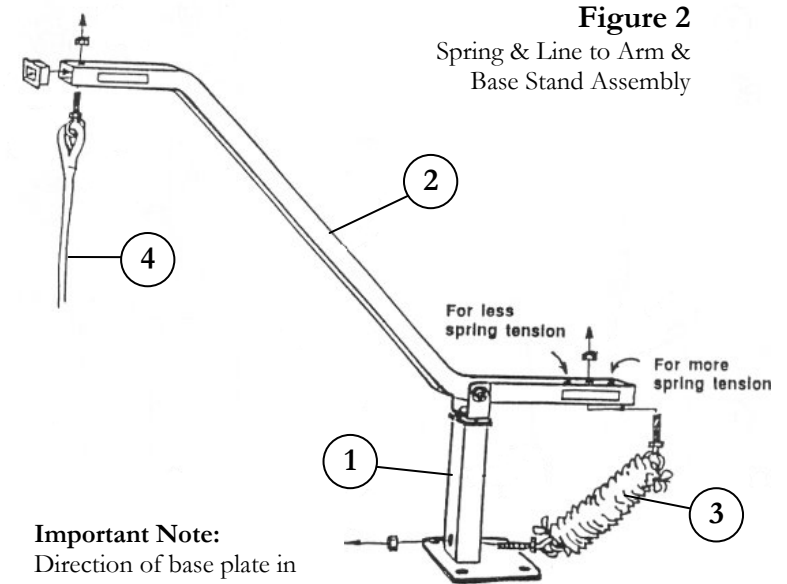

Figure 2
3. Attach the Line Assembly securely to the end of the Arm Assembly - Figure 2.
4. Insert the longer (lower) Spring eye bolt through the hole in the base of the Base Stand Assembly – follow the diagram – and securely tighten the nut - Figure 2.
5. Insert the other Spring eye bolt into the selected hole in the Arm Assembly – and securely tighten the nut - Figure 2.